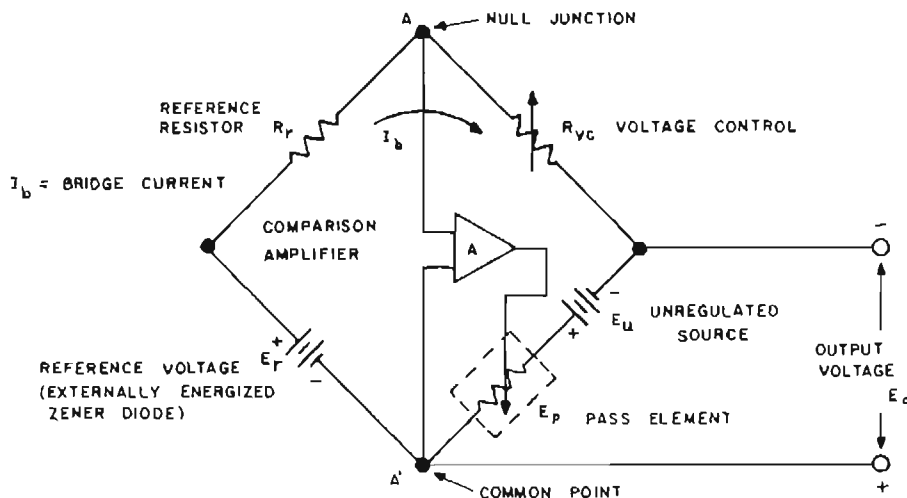

FIG. 3-4 KEPCO POWER SUPPLY AND COMPARISON BRIDGE CIRCUIT.
- 3-8 **GENERAL.** A few general remarks may be in order to familiarize the user of this equipment with the terminology and basic equations pertaining to remote programming of the Kepco PAT Power Supplies. Electrically, the power supply consists of the unregulated d-c source ( $E_u$ ), the pass element ( $E_p$ ), the d-c error amplifier (A), and a comparison circuit which resembles a 4-arm electrical bridge. (Refer to FIG. 3-4.) The elements of the bridge are arranged to produce a virtual zero at the amplifier input when the bridge circuit is at balance ( $V_{AA'} = 0$ ). Any tendency for the output voltage to change in relation to the reference voltage ( $E_r$ ) creates an error signal which, by means of negative feedback and the amplifier, tends to correct the output voltage towards restoration of bridge balance.